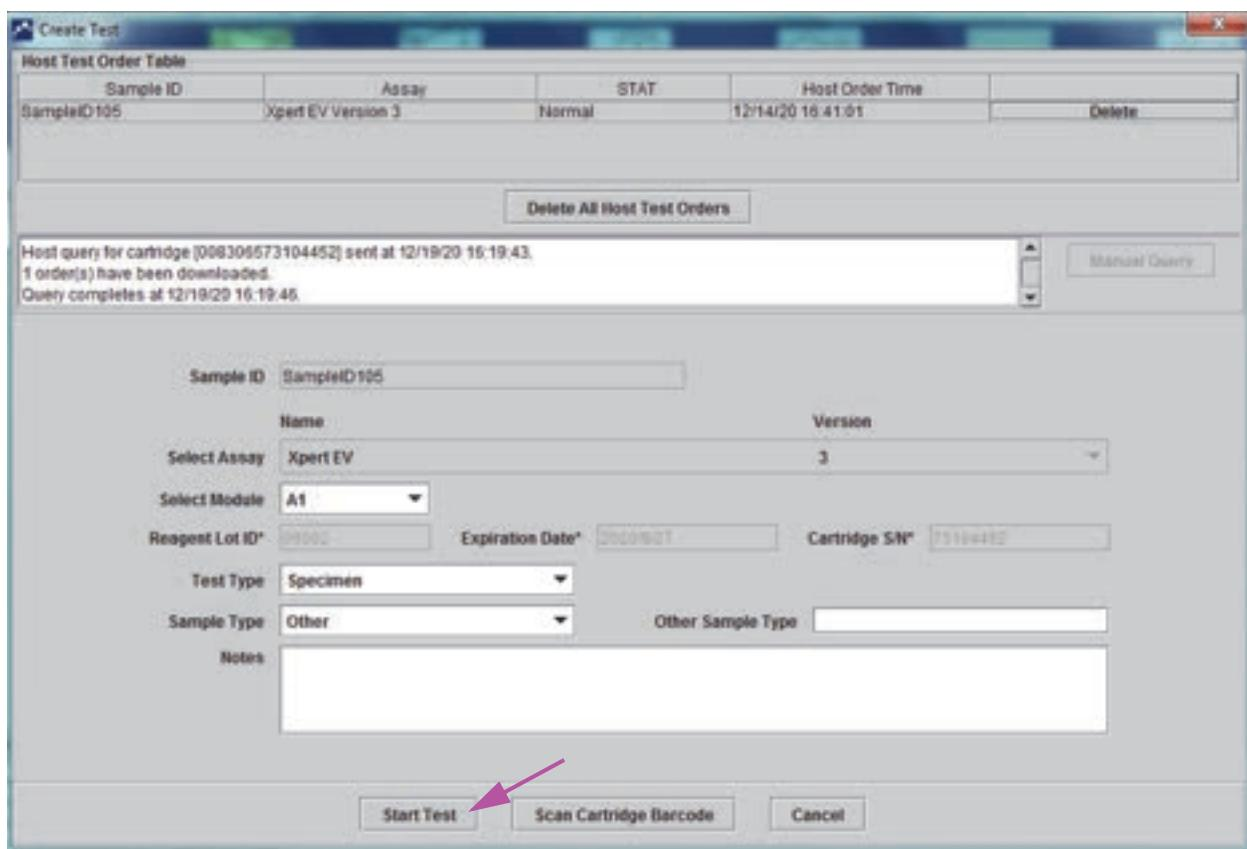
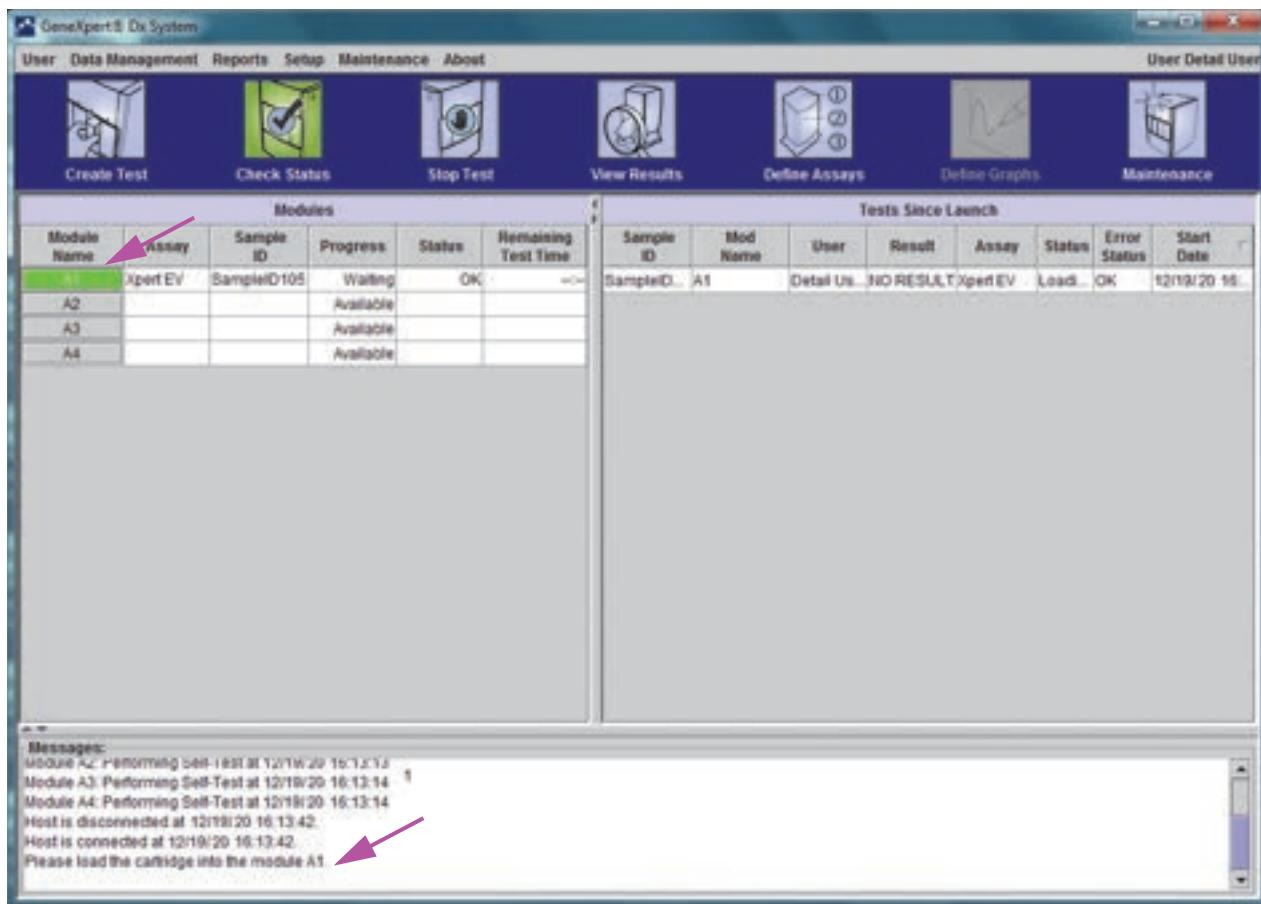

Figure 5-115. Create Test Screen, showing Cartridge Query Completed
Figure 5-116. GeneXpert Home Screen, showing the Cartridge Loading Message
The GeneXpert Dx system will query the Cepheid Link system to verify that the order exists on the system. If the order exists, the order will be downloaded to the GeneXpert Dx system. (see Figure 5-115).
- On the **Host Test Order Table** section, (see Figure 5-115), review the order. Enter additional information or notes, if necessary, then select the **Start Test** button. The GeneXpert Home Screen appears, displaying a message to load the cartridge into the module, which is highlighted in green. See Figure 5-116.